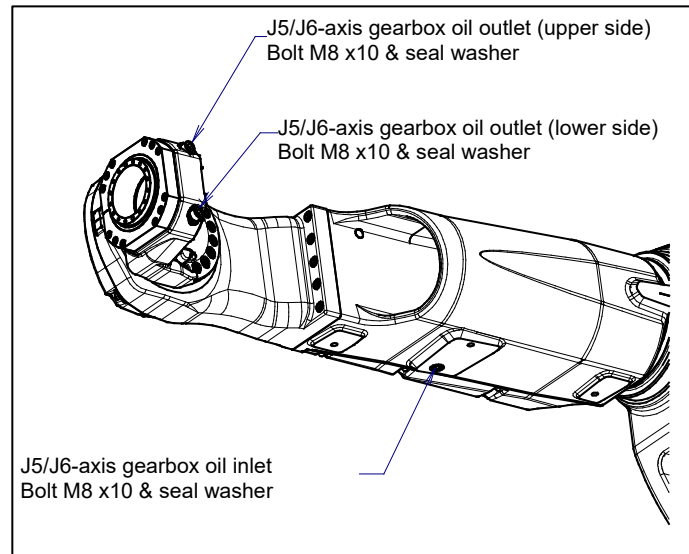

Fig. 7.3.2.6 (a) Oil inlet and outlet
- 4 Remove two bolts and seal washers of oil outlet. Then remove the bolt and the seal washer of the oil inlet See Fig.7.3.2.6 (a). In this time, if you remove bolt of oil inlet firstly, you can prevent spilling oil on surroundings.